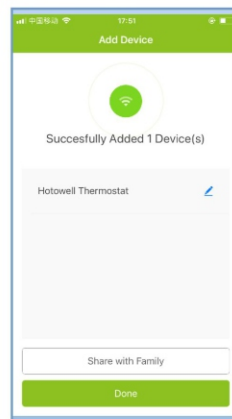

fig 4.4
- The App will connect with the thermostat successfully. The connecting process takes 5~90 sec, the thermostat name can be editable once connected.(Fig.4.4)
- The thermostat name can be edited after connection (fig 4.4).
- Method 1: Click “Share with Family” as fig 4.4.